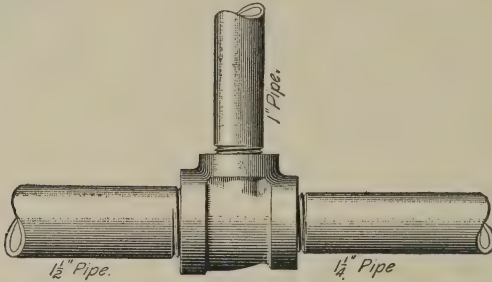

FIG. 12
if all the openings were 1-inch, it would properly be called a  $1'' \times 1''$  tee. It is known more commonly to the trade, however, as a *straight 1-inch tee*. If the openings are different in size, it is necessary to be very careful in naming a tee. Thus, Fig. 12 shows a run of  $1\frac{1}{2}$ -inch pipe reduced to a run
**26. Reducing tees** are tees that have the run reduced in size, as shown in Fig. 12. A reducing tee may also have a reducing side outlet. In designating reducing tees, the largest opening does not take precedence. The side outlet is always named last, even though it is larger than either of the others.
**27. A bullhead tee** is shown in Fig. 14. It will be observed that the run of the pipe is smaller than the outlet. It is used generally where the larger pipe must have branches both ways at an angle of  $90^\circ$  to it. It can be made reducing on the run, the same as is shown in Fig. 12.